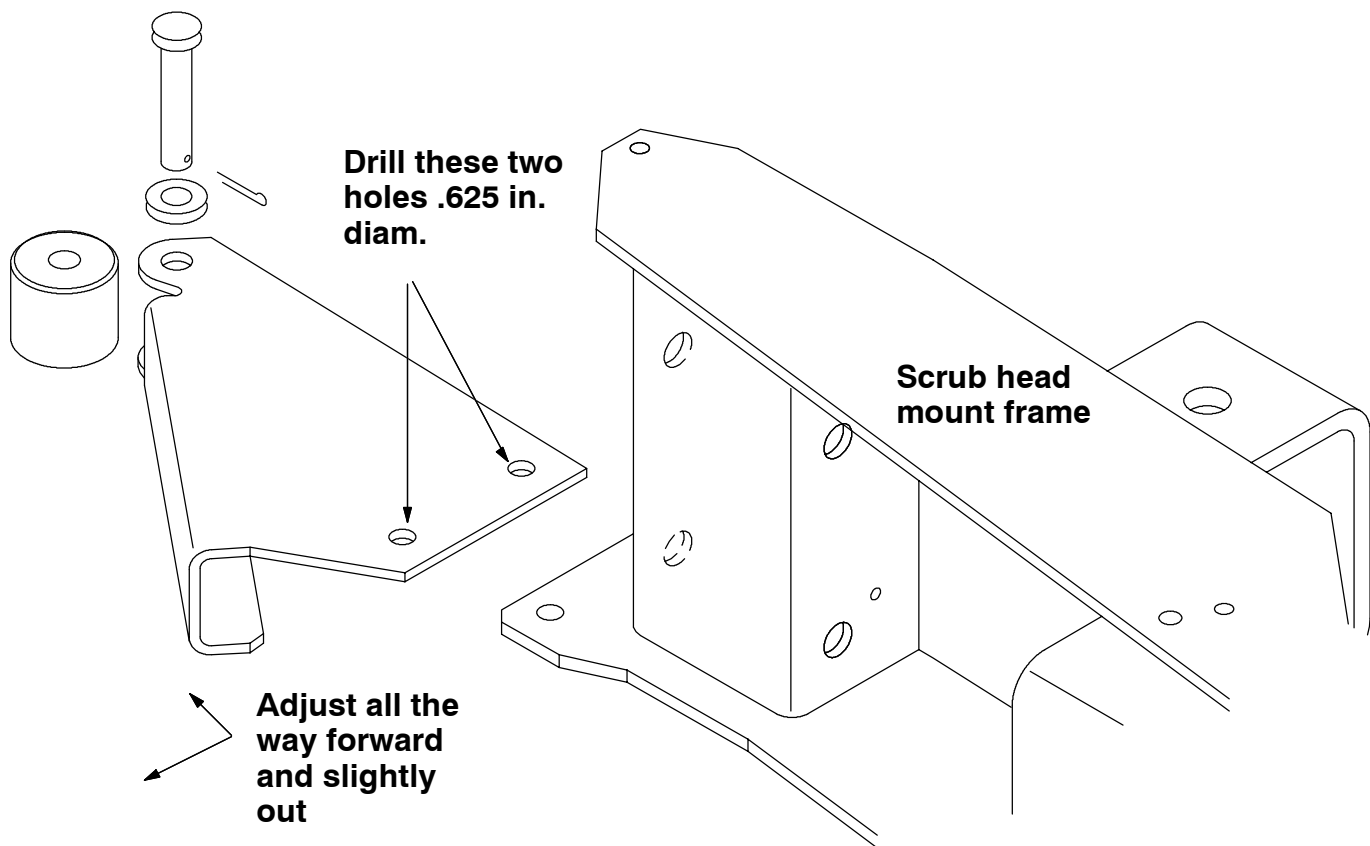

FIG. 3 - **STANDARD** SIDE SQUEEGEE GUARD
8. Remove the right hand side guard bracket and drill the two existing holes to .625 diam. Reinstall the side guard bracket and adjust all the way forward and slightly out to clear the right hand side squeegee roller. (Refer to FIG. 3 and 4)